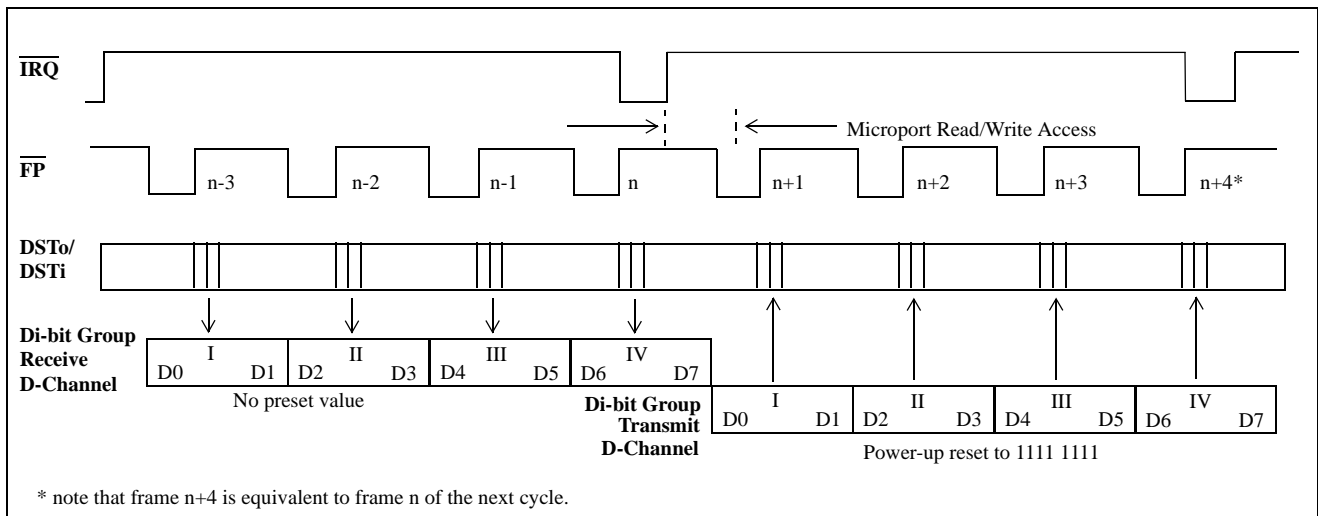

Figure 7a - D-Channel 16 kb/s Operation
- a. A microport read of address 04 hex will result in a byte of data being extracted which is composed of four I-bits (designated by roman numerals I,II,III,IV). These di-bits are composed of the two D-Channel bits received during each of frames n, n-1, n-2 and n-3. Referring to Fig. 7a: di-bit I is mapped from frame n-3, di-bit II is mapped from frame n-2, di-bit III is mapped from frame n-1 and di-bit IV is mapped from frame n.
- b. A microport write to Address 04 hex will result in a byte of data being loaded which is composed of four di-bits (designated by roman numerals I, II, III, IV). These di-bits are destined for the two D-Channel bits transmitted during each of frames n+1, n+2, n+3, n+4. Referring to Fig. 7a: di-bit I is mapped to frame n+1, di-bit II is mapped to frame n+2, di bit III is mapped to frame n+3 and di bit IV is mapped to frame n+4.